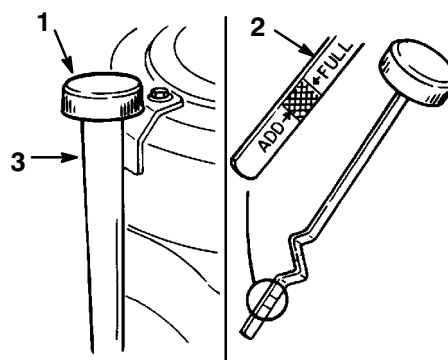

Figure 29
3. Clean around the oil dipstick (Fig. 29) so dirt cannot fall into the filler hole and damage the engine.
4. Unscrew the oil dipstick and wipe the metal end clean (Fig. 29).
5. Screw the oil dipstick fully onto the filler tube (Fig. 29). Unscrew the dipstick again and look at the metal end. If oil level is low, slowly pour only enough oil into the filler tube to raise the level to the "FULL" mark.
7. Slowly pour approximately 80% of the specified amount of oil into the filler tube (Fig. 29). Now check the oil level; refer to Checking Oil Level, page 33, steps 4-5.
5. Slowly pour approximately 80% of the specified amount of oil into the filler tube (Fig. 29). Now check the oil level; refer to Checking Oil Level, page 33, steps 4 and 5.